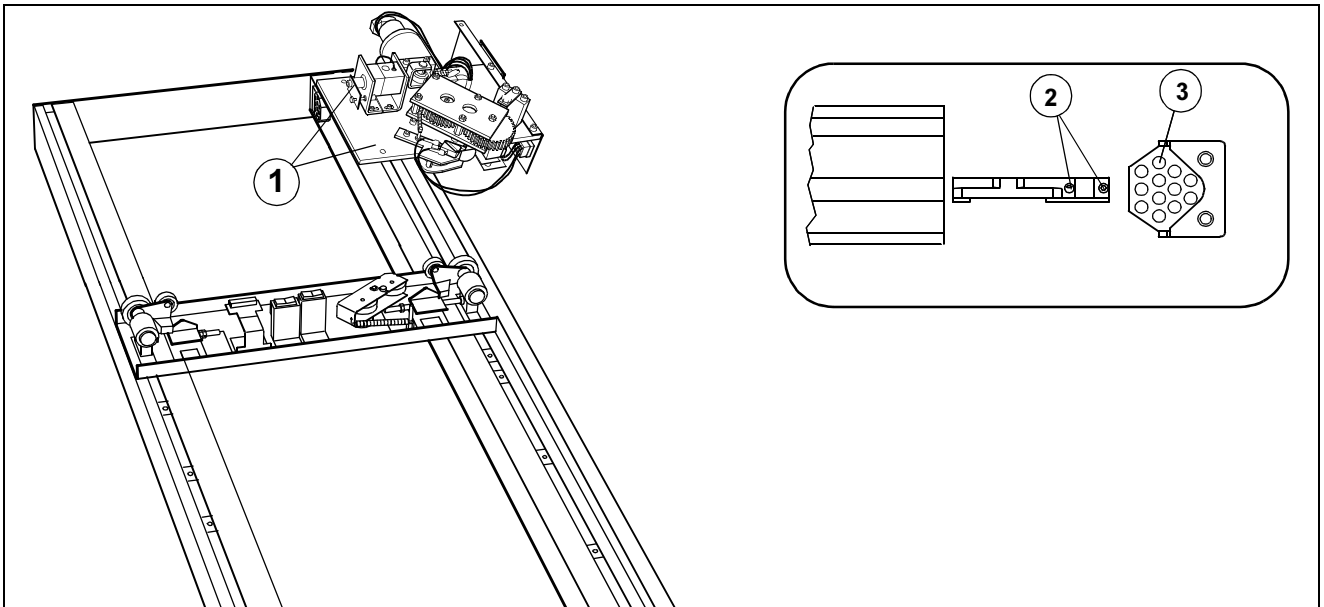

Fig. 4
- Check the stops and rubber bumpers (3/Fig.4).
- Check the M6 set screws (2/Fig.4) of the SID stop detents, transverse, **10 Nm**.